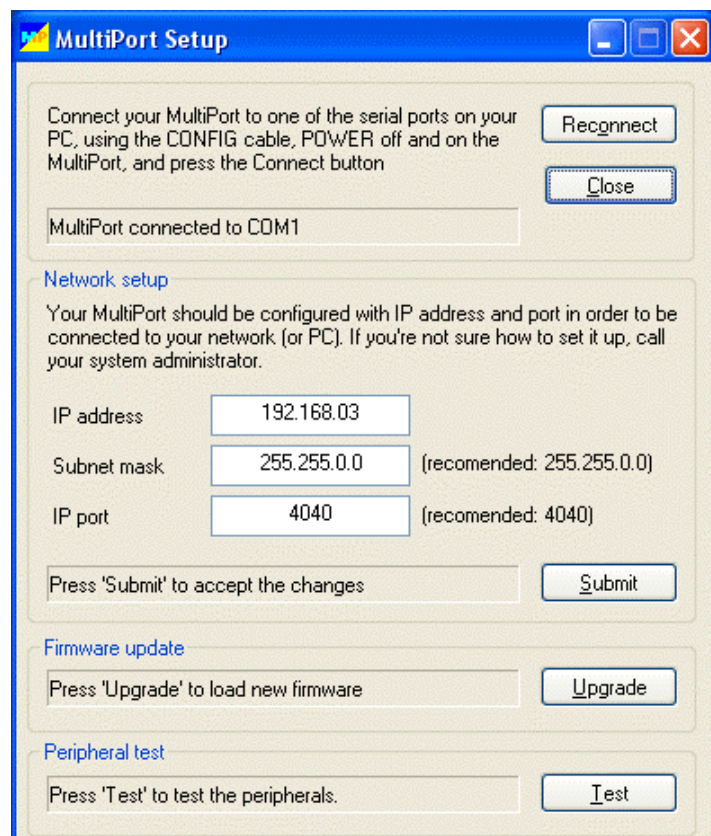

Figure 9. MultiPort Setup Screen
8. The *MultiPort Setup* software (Figure 9) should now display the network address of the MultiPort box. Change these settings only if necessary or if they are empty.